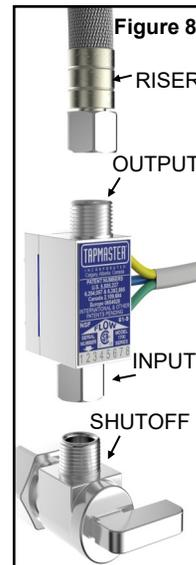

Figure 8
**STEP #3** - Prior to installing the valve blocks, open the shut-off valves momentarily to flush out any debris in the water lines. Large pieces of water borne debris will be trapped by the filter/screen in the valve blocks and may reduce water flow or cause noisy operation. As shown in **Figure 8** connect the valve block(s) with the integrated nut (input) to the shutoff fitting and the faucet riser to the compression thread (output). Finger tighten only until both valve blocks are in position. Be sure the plastic control tubing and fittings are not damaged in any manner.